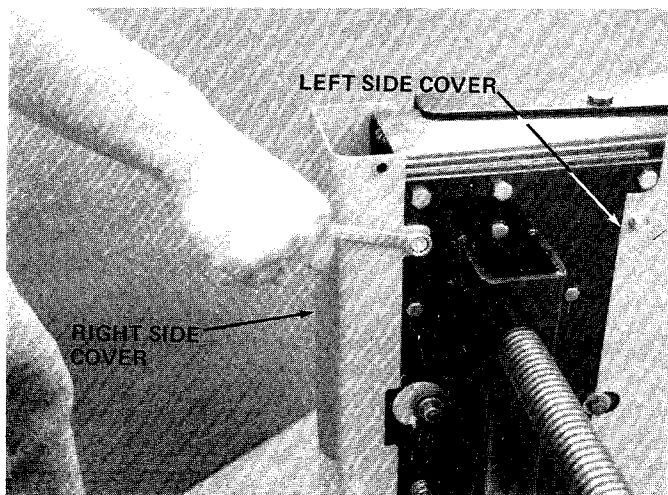

FIGURE 7
4. Using a 1/2" wrench, remove the right and left hand side covers. See figure 7.